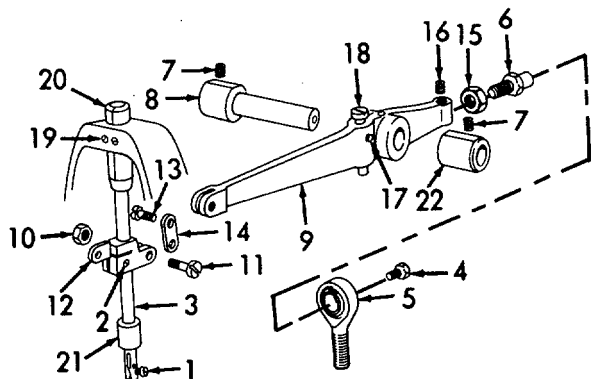

Figure 6-135. Needle Bar Drive Mechanism, Removal.
a. Removal (Refer to Figures 6-135 and 6-136).
- (1) Refer to Figure 6-135. Remove screw (1).
- (2) Loosen setscrew (2) and slide needle bar (3) out top of arm.
- (3) Remove bolt (4) and slide connecting arm (5) off pivot stud (6).
- (4) Remove two setscrews (7).
- (5) Remove stud (8).
- (6) Remove rocker arm (9) out front of arm.
- (7) Remove nut (10), screw (11), and clamp (12).